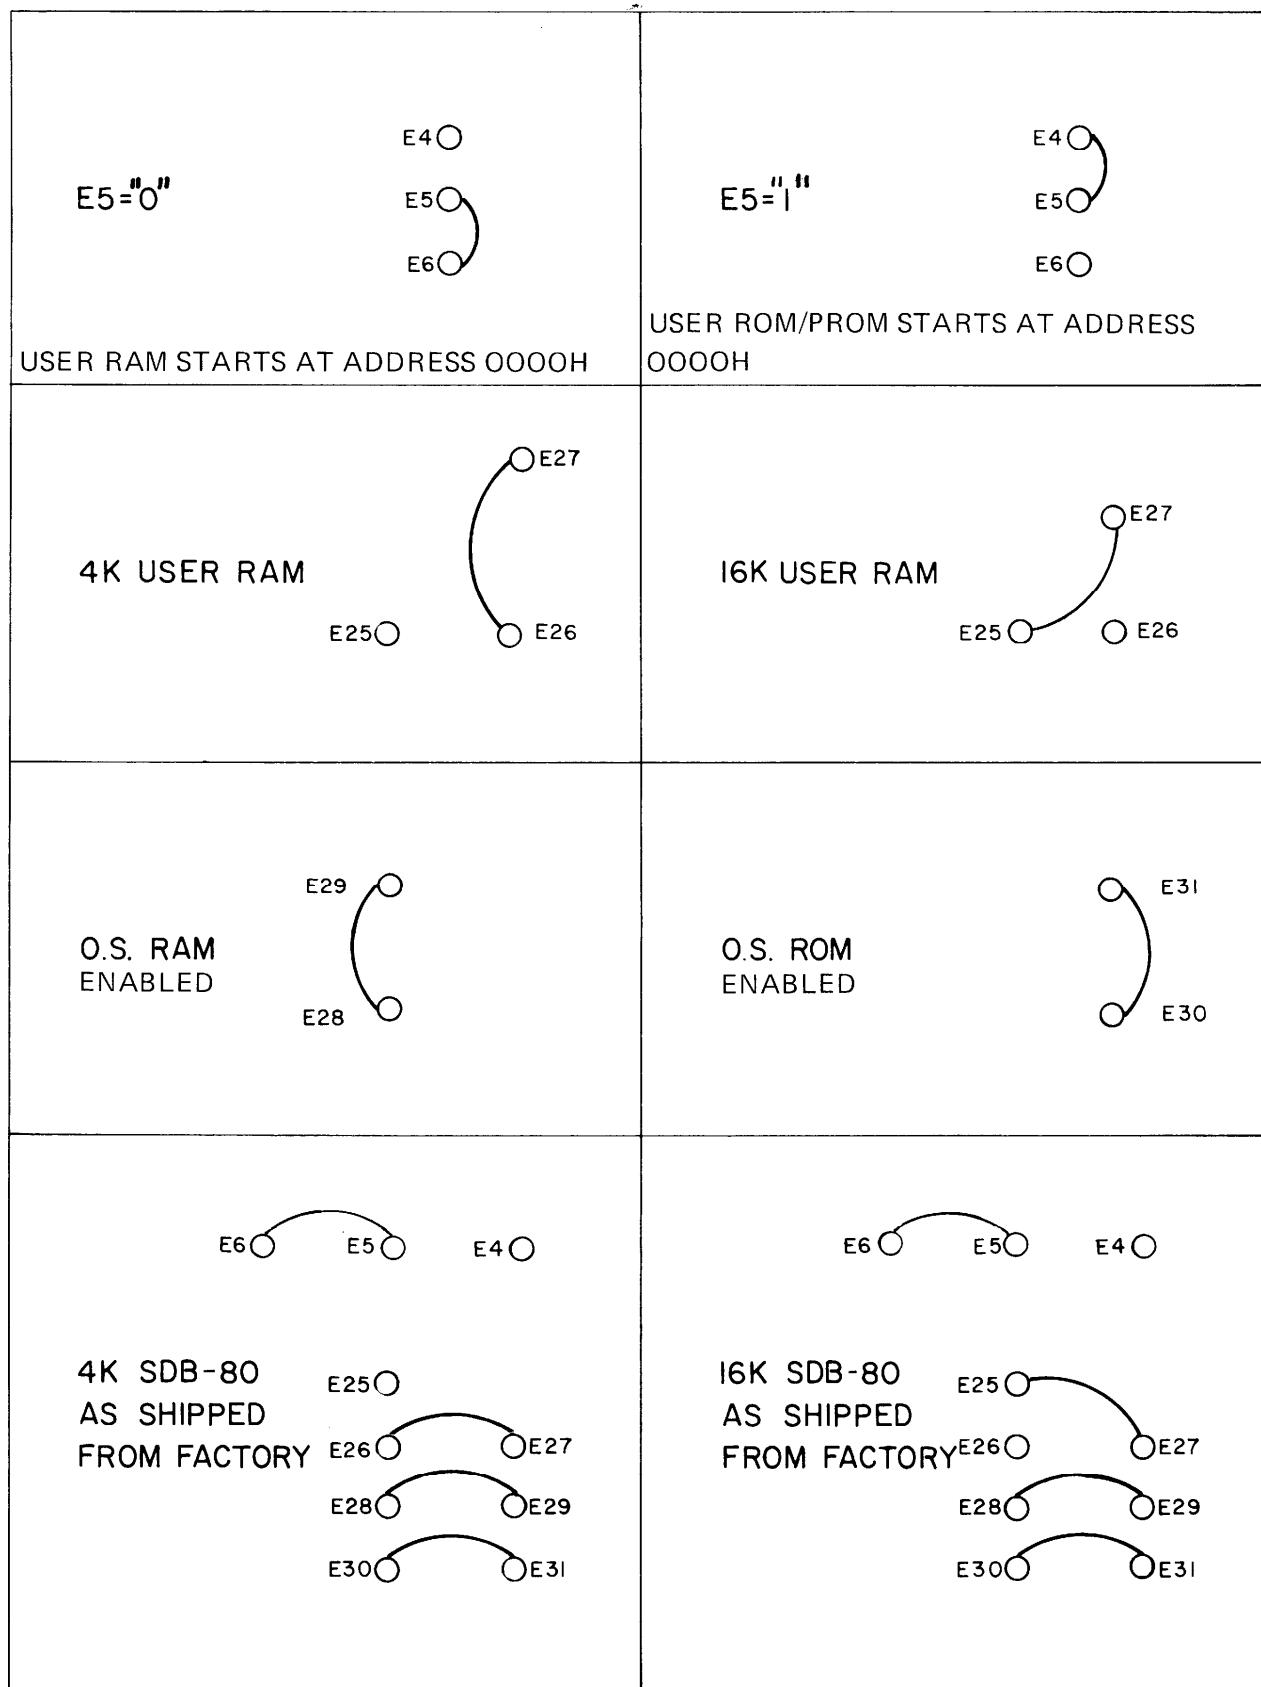

Figure 17
- (3) Figure 17 illustrates the jumper connections that determine whether 4K or 16K of RAM space is reserved for the USER RAM, and whether or not the O. S. RAM and/or ROM is enabled.